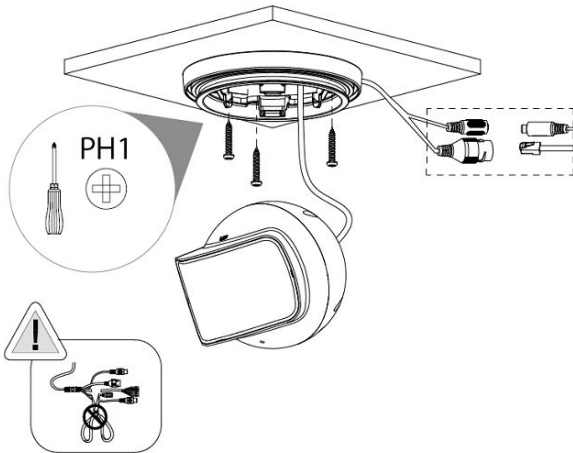

Figure 2-2
Step 2 Install the expansion screws through the mounting surface. Route the cabling as needed through the mounting surface or the side exit notch of the camera mounting base. See Figure 2-2.